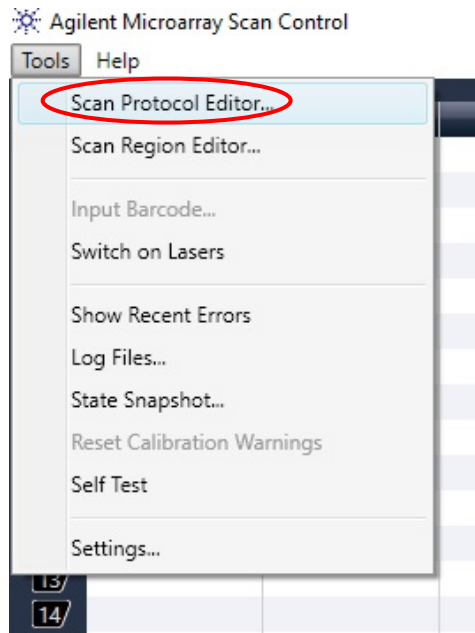

Figure 7: Scan Protocol Editor
1. Click 'Tools > Scan Protocol Editor' (Figure 7).